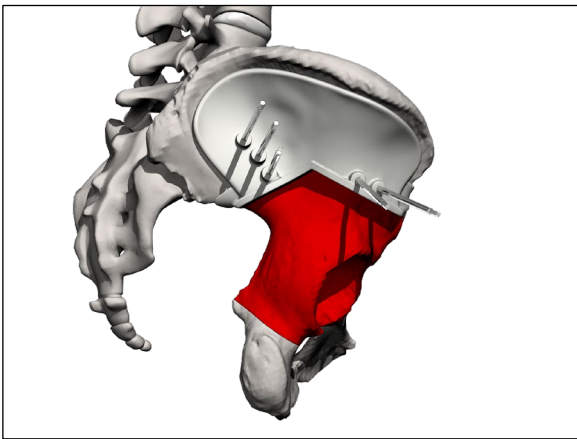

Figure 3: Example of patient-matched resection plan.
5. Referencing the stated pin placements on the surgical plan (Figure 3). Using **3.2mm Smooth Trocar Tip Pins** at the specified diameter, mechanically fasten single use resection instrument(s) (either reaming trials or cutting guides) to the host bone through the provided fixation features. Ensure the device is stable and does not move from the placed position throughout the process.